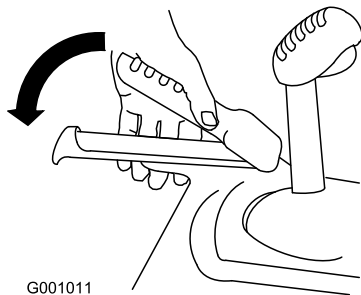

Figure 13
3. Squeeze the left hand (traction) lever to the hand-grip (Figure 13).
6. Squeeze the left hand (traction) lever to the hand-grip (Figure 13).